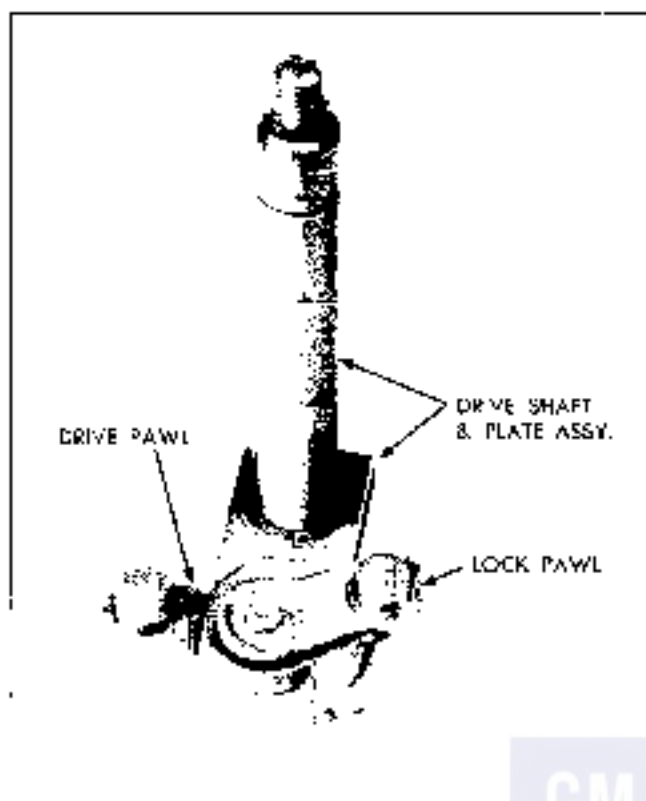

Fig. 12-39 Installing Lock Pawl—Pontiac
2. Assemble lock pawl over drive pawl as shown in Fig. 12-39.